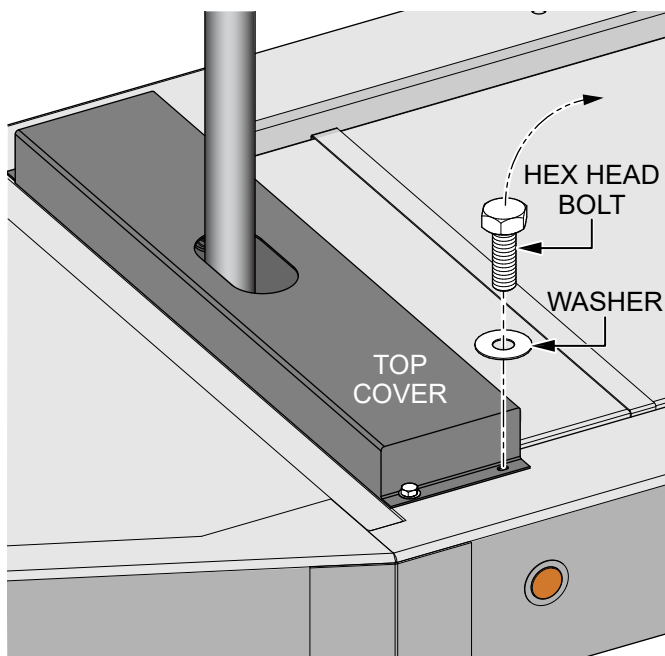

Figure 1. Remove Top Cover Hardware
1. Remove the **four hex head bolts** (Figure 1) and **four washers** securing the **top cover** to the fuel tank assembly. Save the bolts and washers for later.